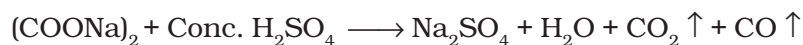

Fig. 7.2 : Formation of brown ring
- (b) Take 1 mL of an aqueous solution of the salt and add 2 mL conc. H_2SO_4 slowly. Mix the solutions thoroughly and cool the test tube under the tap. Now, add freshly prepared ferrous sulphate solution along the sides of the test tube dropwise so that it forms a layer on the top of the liquid already present in the test tube. A dark brown ring is formed at the junction of the two solutions due to the formation of nitroso ferrous sulphate (Fig. 7.2). Alternatively first ferrous sulphate is added and then concentrated sulphuric acid is added.